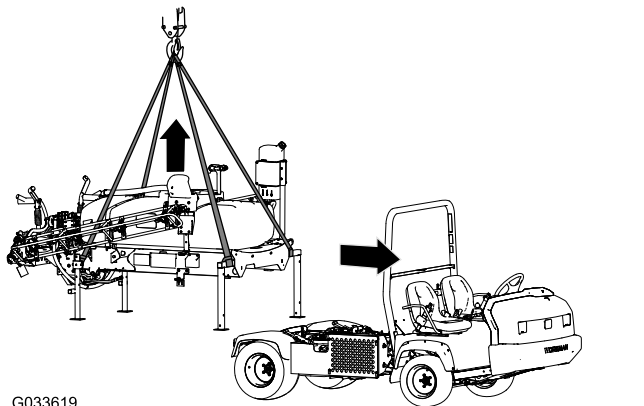

Figure 132
1. Lower the booms to approximately 45° and then pivot them forward (Figure 132).
7. Lift the tank skid from the machine high enough to clear the skid from the machine (Figure 132).
5. Attach the lifting equipment to the horizontal tubes of the forward jackstands and the vertical post of the rear jackstands (Figure 132).